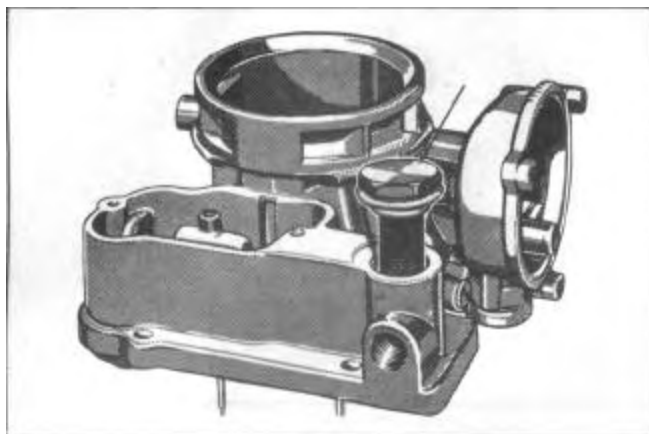

FIGURE 74
10. Install bowl strainer gauge, nut and gasket assembly as indicated by arrow, Figure 74.